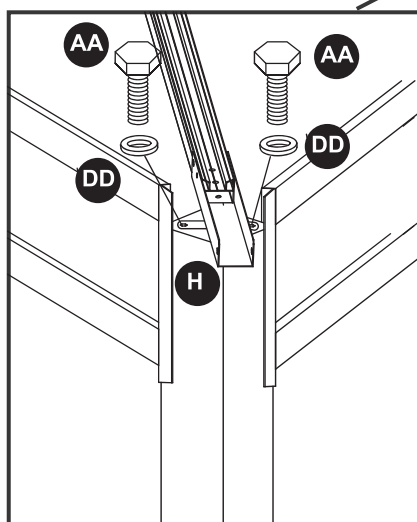

Fig.9
7.2 Connect the connecting piece of the Short Raingutter (H) to the Post (A) and attach it with Bolts and Washers (AA/DD). Then, attach the Raingutter (G/H) to the Post(A) with the Bolts (JJ). See Fig. 9 - Fig. 10. Repeat for all four corners.